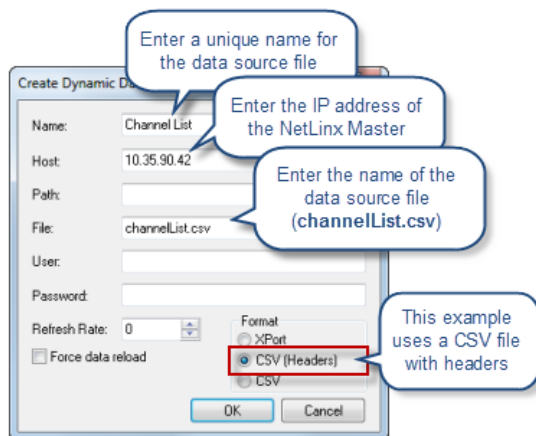

FIG. 140 Create Dynamic Data Source dialog with Example data (ChanelList.csv)
- Open the Resource Manager to the *Dynamic Data Sources* tab and click **New** to open the *Create Dynamic Data Source* dialog (FIG. 140):